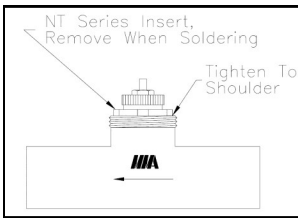

Fig. 2 NT Series Insert
- Insert assembly MUST be removed from valve bodies with sweat fittings before installation to avoid heat damage to rubber components (Fig. 2).